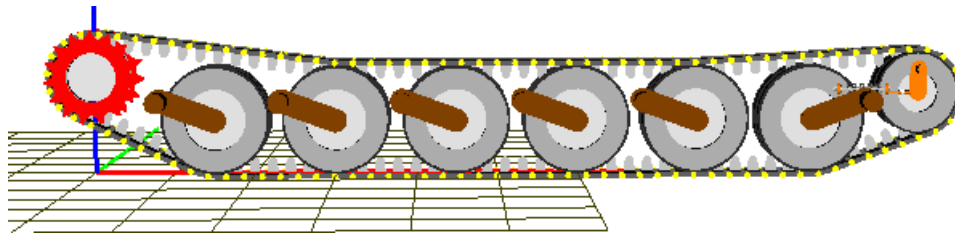

Fig. 19 Adding track chain
- Click the Generate button, Fig. 19.